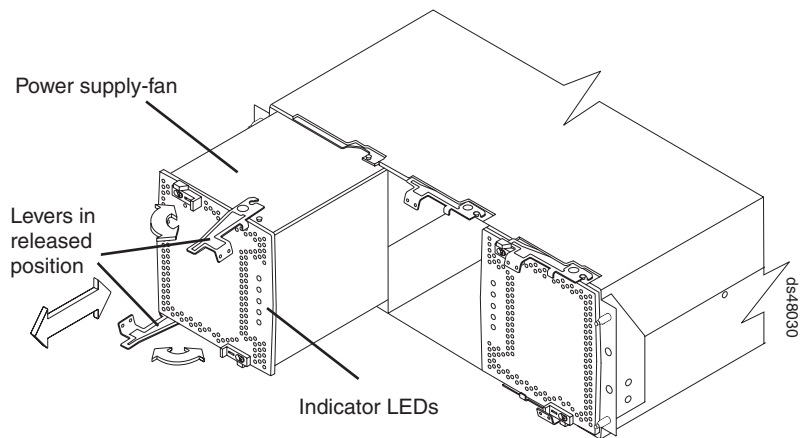

Figure 21. Replacing the power supply and fan units
1. Replace the power supply and fan units. Figure 21 on page 44 shows the locations and correct orientation of the power supply and fan units and the power supply and fan unit levers. The power supply and fan units are keyed to always fit into the enclosure in the proper orientation. When the component is oriented correctly, a relief along one edge of each component aligns with a ledge in the enclosure. Before installing the component, turn the component so that the indicator LEDs are near the center of the storage subsystem.